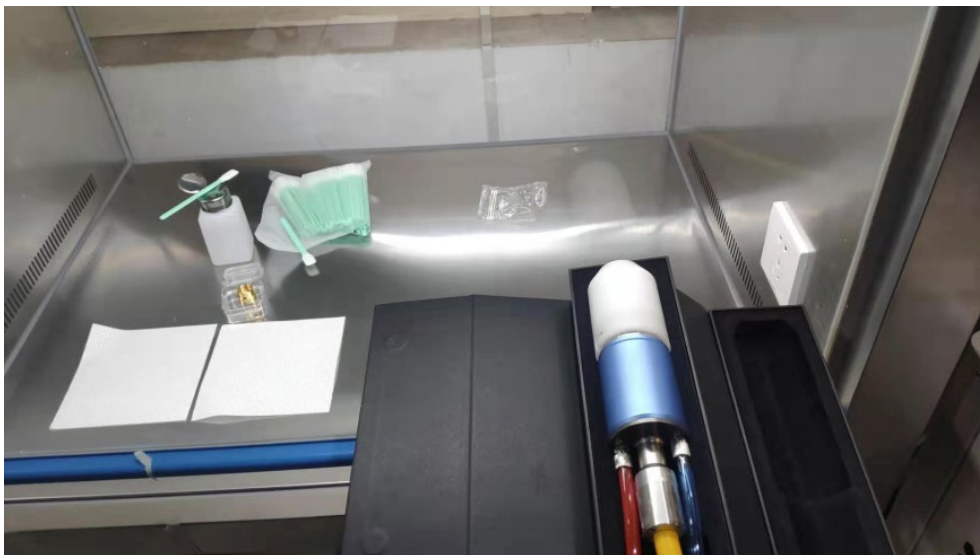

Figure 7 Output cable placed in the box
a) Clean workbench should be turned on for at least 5 minutes, and the output optical cable should be taken out of the black packaging box, as Figure 7. The outer surface of the shell shall be blown with compressed air bottle for preliminary cleaning.